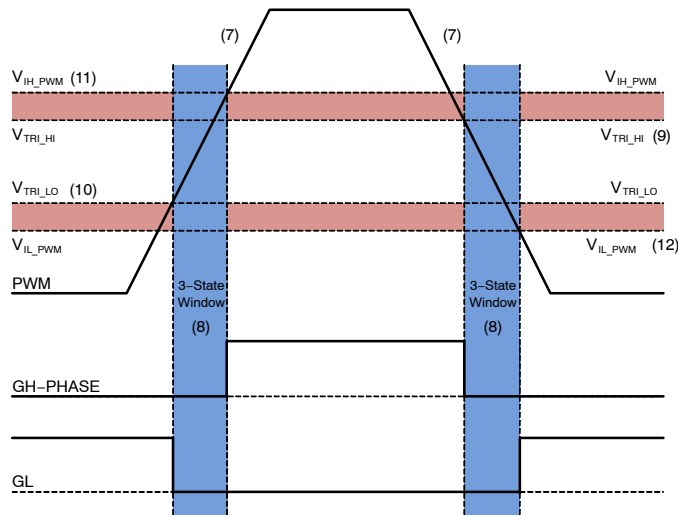

图 30. PWM阈值定义
7. The timing diagram in Figure 30 assumes very slow ramp on PWM.